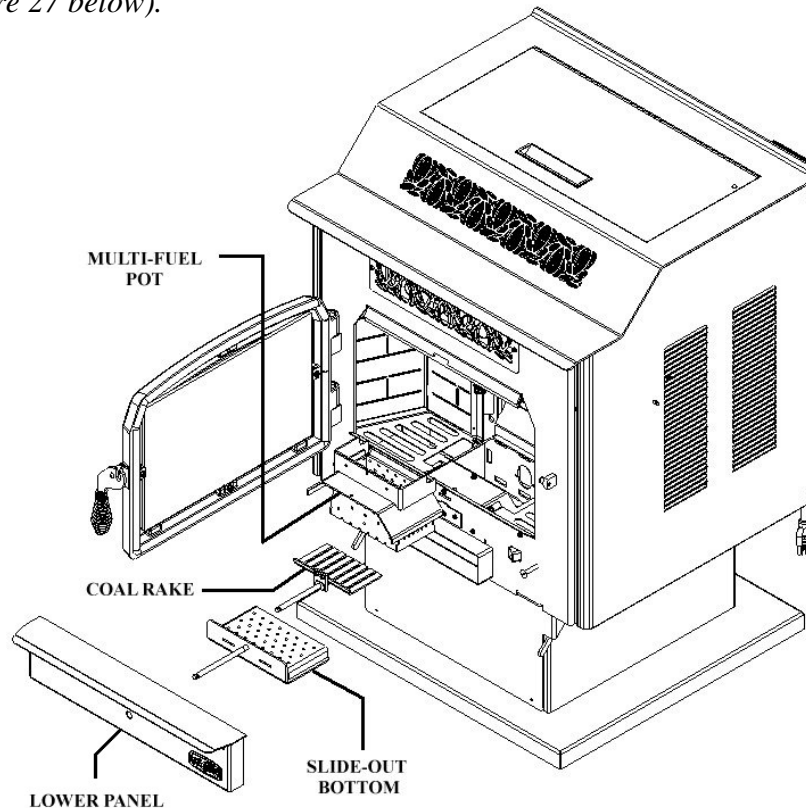

Figure 27
2. **Burnpot and Slide-Out Bottom.** Clean burn grate holes whenever needed. Remove the Burnpot and use a small metal object (Nail, Drill Bit, etc.) to clean out plugged holes. (*See Figure 27 below*).